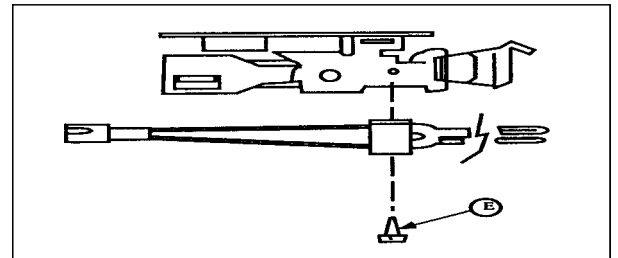

Figure 4-5
5. Remove screw (E) holding broken glo-bar to burner and replace glo-bar (Figure 4-5).